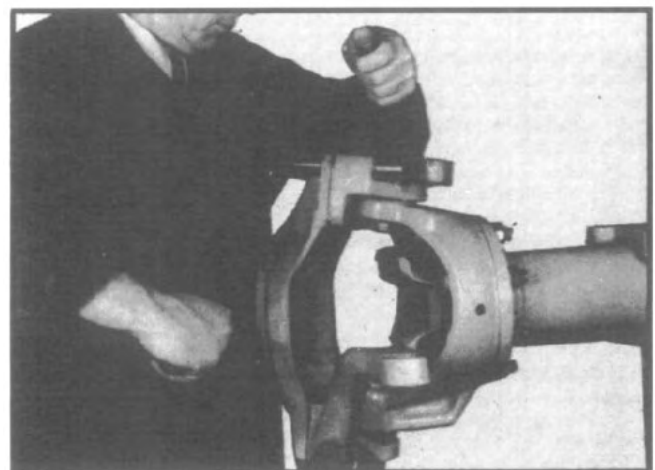

Fig. 13
6. Re-install bolts and tighten to the specific torque. (See fig. 13.)
4. Support the spindle yoke while removing the four capscrews at the upper kingpin bracket. (See fig. 13, Page 7.)